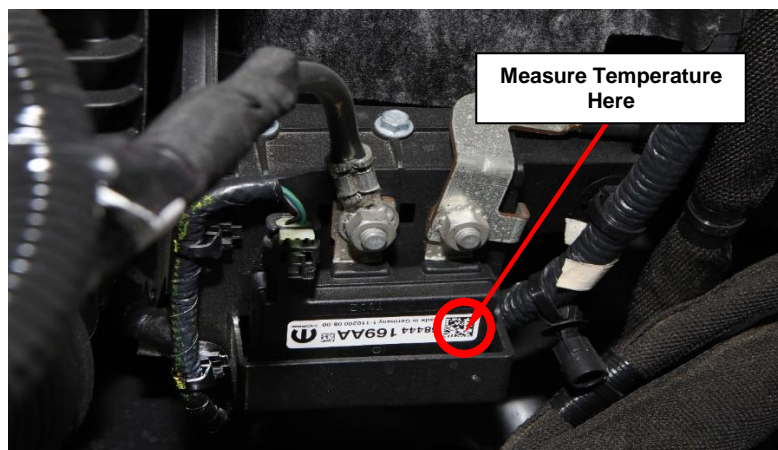

Figure 3 – Temperature Measurement Location
15. Measure the temperature of the Grid Heater Relay during the test in the specific location as illustrated in Figure 3 when prompted by wiTECH.
NOTE: Measure the relay temperature from the same distance for each test sequence (Figure 3).